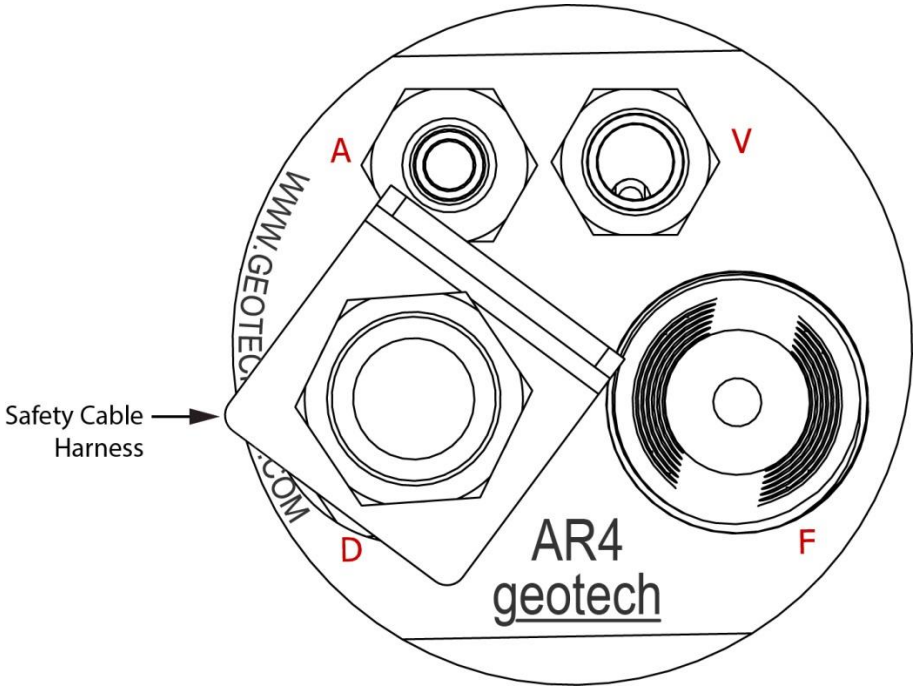

Figure 2-1: Pump Head
Attach the Air (A), Vent (V), and Discharge (D) hoses/tubing to their appropriate labeled fittings (see Figure 2-1). Ensure all hoses are installed securely and completely. Top filling AR4 pump models have a screened inlet in the Fill (F) port; bottom fill only pumps will have this port plugged.